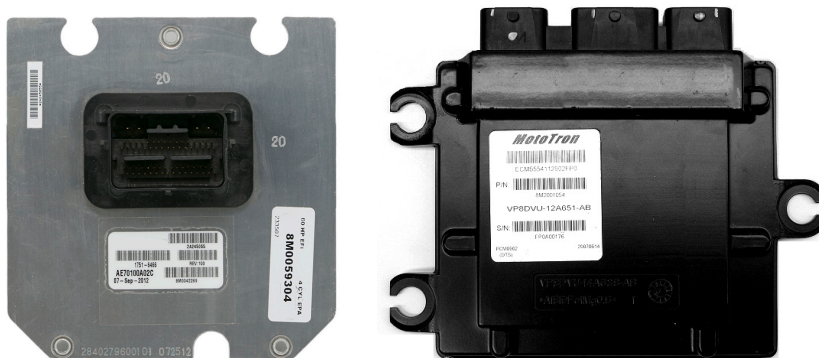

Figure 3 Mercury ECM-70
*In 2010 Mercury introduced a new ECM-70 Smartcraft compatible EFI module followed by a PCM-112 module in 2018 as shown in Figure 3. If you are working on an outboard engine that is equipped with either an ECM-70 or PCM-112 EFI module please refer to the Smartcraft ECM-70 / PCM-112 section in this manual for diagnostic adapter requirements and details on connecting the scan tool to the engine.*